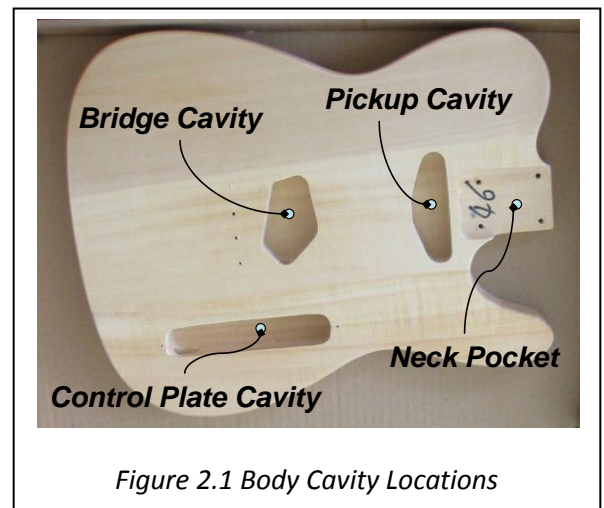

Figure 2.1 Body Cavity Locations
1. Check Neck cavity on the Body for pre-drilled (4) mounting holes (Figure 2.1);
1. Place the Control Plate in the Body Control Plate Cavity (reference Figure 2.1), ensuring the wiring is in the cavity
2. Place the Pick Guard in the Body Pick Guard Cavity (reference Figure 2.1), ensuring the wiring is in the cavity
3. Carefully move the Control Plate and the Pick Guard so that the Pick Guard is aligned with the Neck Pocket. Using 3/8" screws (item 4 on Material list), attach Control Plate (1 screw) and Pick Guard (2 screws). If holes are not pre-drilled, mark the holes and drill starter holes with 1/16 drill bit. Ensure all holes are pre-drilled.
1. Insert the Bridge (material list item #5) in the Body (reference Figure 2.1), ensuring the wiring is inside the cavity.
1. Insert the pickguard/pickup wires through the tunnel from the Pickguard cavity to the bridge cavity, then into the control cavity (reference Figure 2.1).